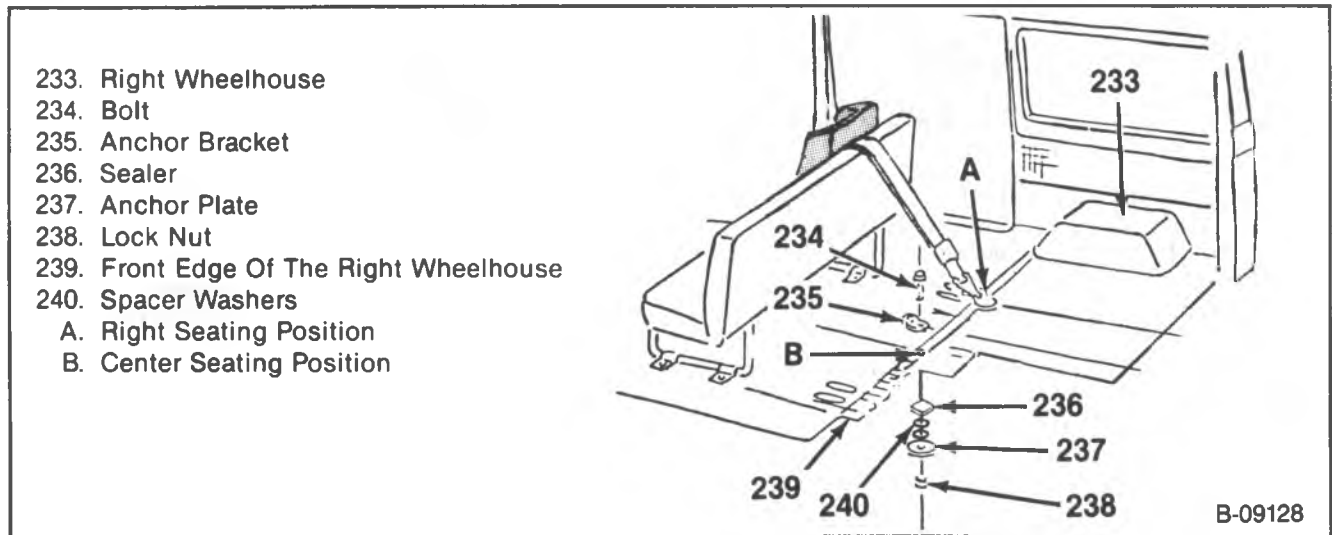

Figure 46 — Second Seat Top Strap Components — Center and Right Position
1. Determine the location for the anchor by measuring 35 mm (1 3/8-inch) rearward from the front edge of the left wheelhouse (figure 46). Next: